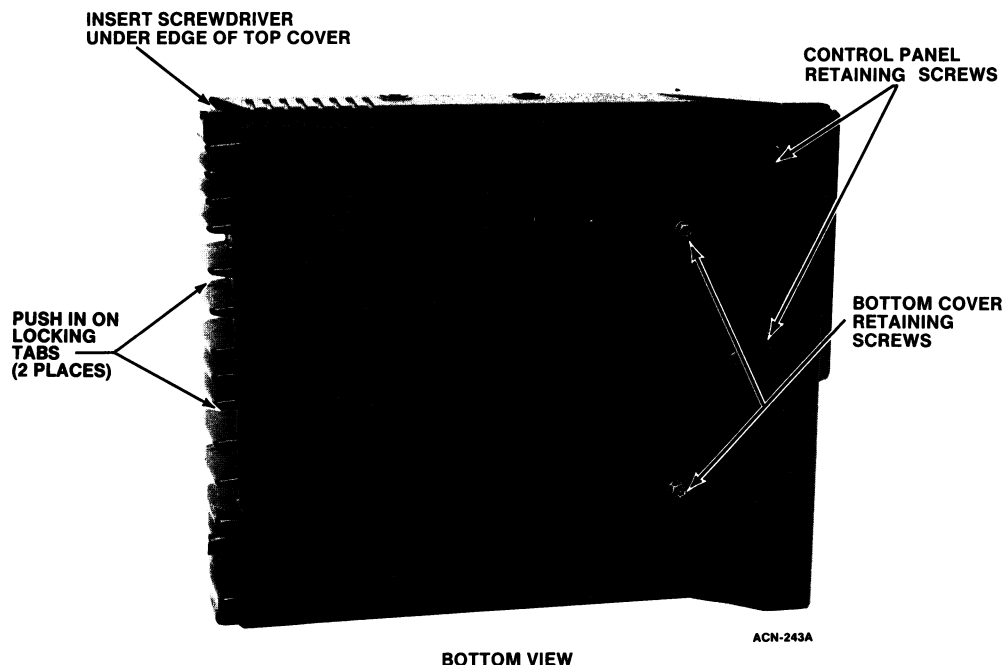

Figure 1 - Bottom View
1. Insert a small standard screwdriver under one side of the top cover and gently pry the side of the cover away from the frame releasing the locking tab (refer to Figure 1).
microphone strain relief (refer to Figure 1). The bottom cover can then be removed from the radio.